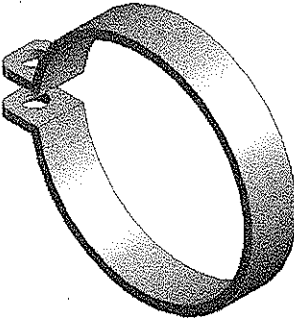

Figure 3-112 The final model
- 5. Choose the **Generate** tool from the **Features** toolbar; the blend feature is created. Figure 3-112 shows the final model.